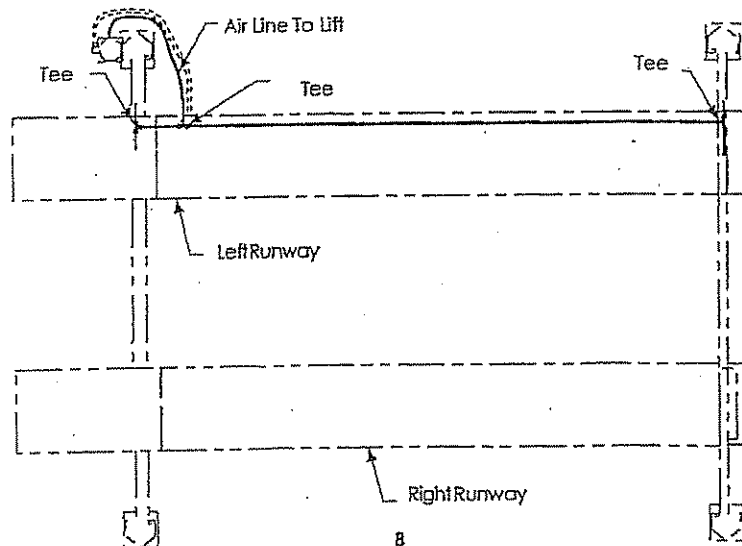

Fig. 20
- D. Run 1/4" air line from air valve to the slot in the fixed runway. Cut airline to length required and attach to Tee in runway, Fig. 20.